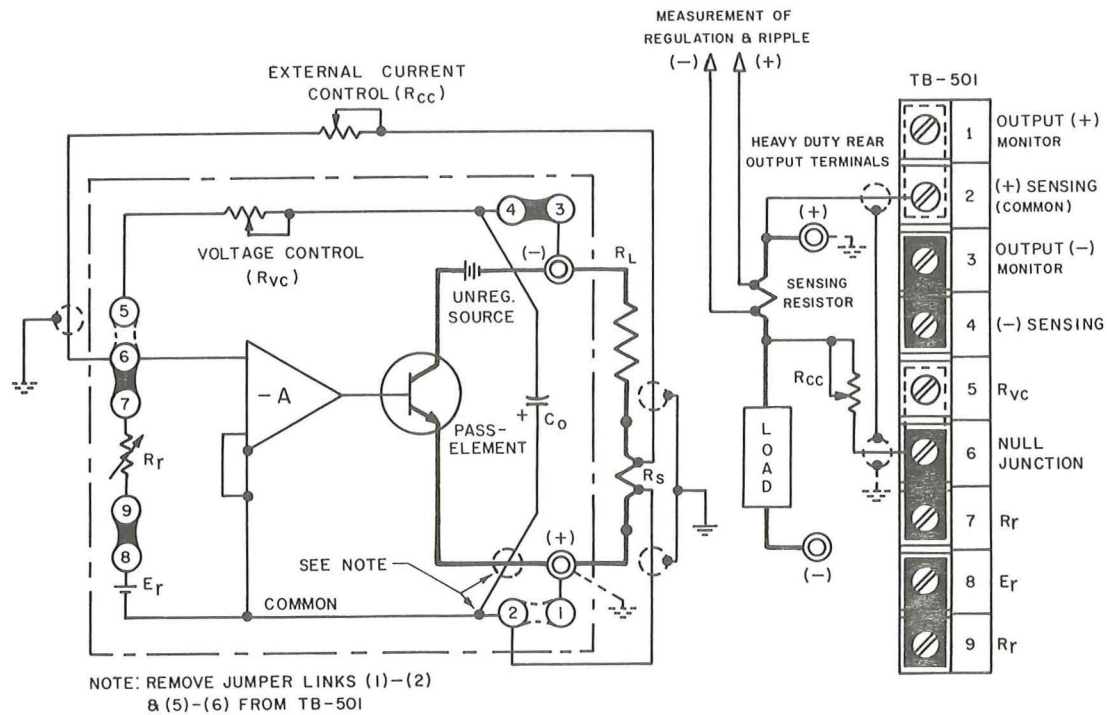

FIG. 3-9 CONSTANT CURRENT OPERATING MODE
3-30 A KEPCO power supply can be set up to deliver constant current by the addition of an external sensing resistor and a current control. In the constant current operating mode, the voltage comparison bridge is interconnected with an external current sensing resistor, R_s , and a current control, R_{cc} (as shown in FIG. 3-9) to maintain a constant voltage drop across R_s . In this way, an adjustable constant load current is obtained. Characteristic of the constant current supply is ability to change its output voltage automatically in order to maintain a constant current through a range of possible load resistances. The range of output voltage that the supply can deliver and simultaneously maintain constant current, is referred to as the "COMPLIANCE VOLTAGE".
3.33 PROCEDURE (Refer to FIG. 3-9)